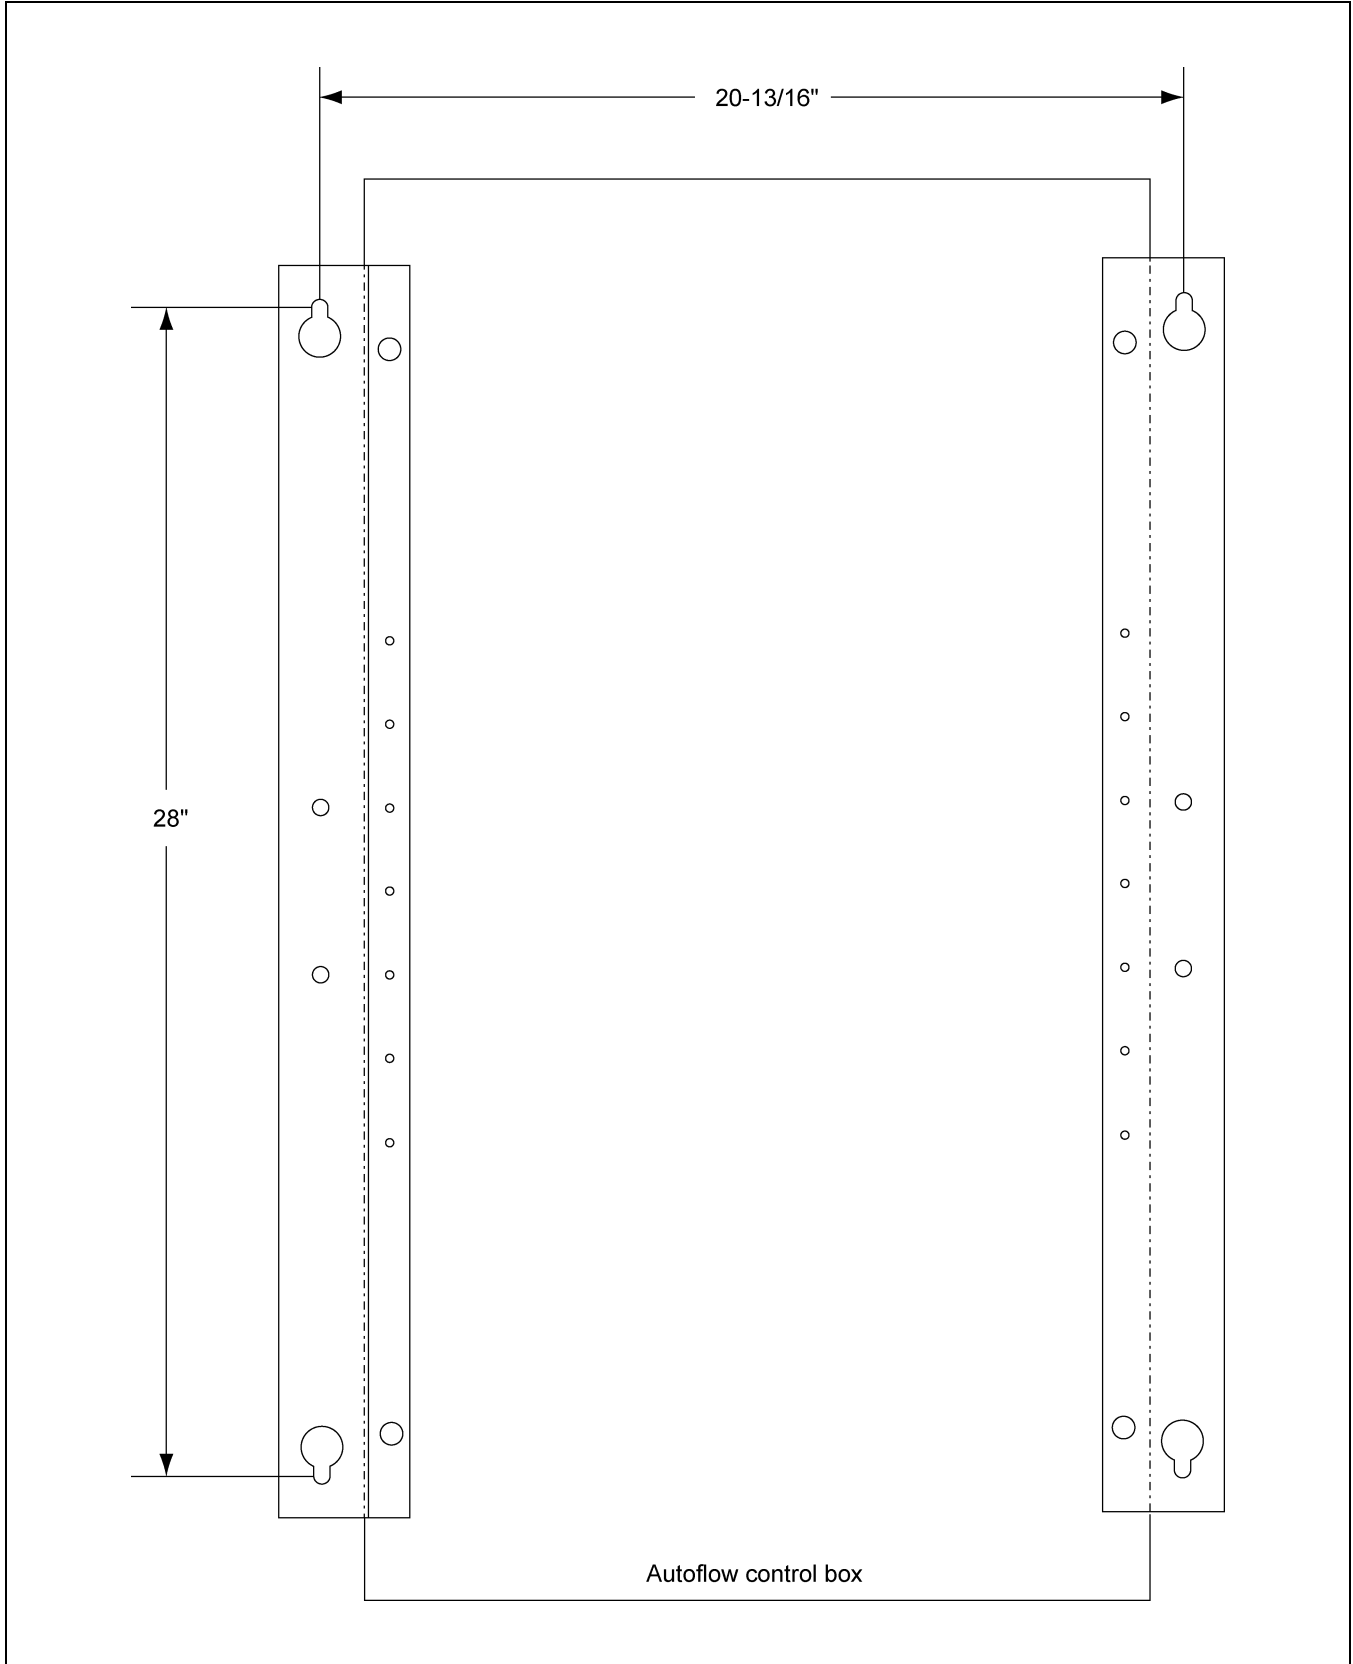

Figure 3C *Illustration of the bolt pattern for the autoflow control box.*
3. Use the hole pattern in *Figure 3C on Page 18* to drill holes for mounting the Autoflow control box.